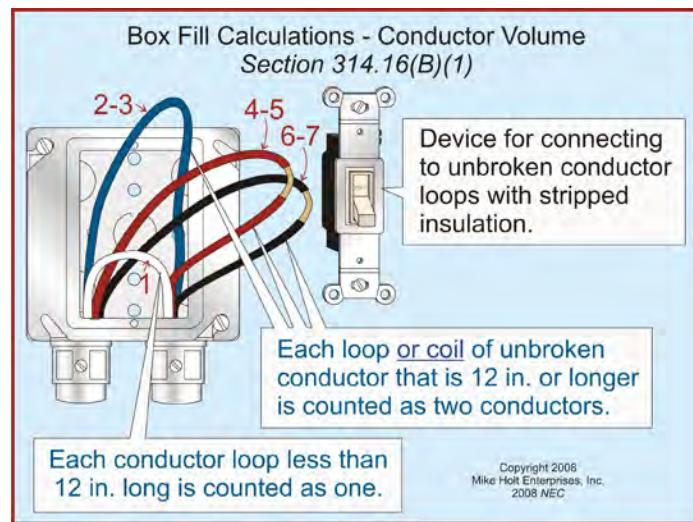

Figure 314–4
(1) Conductor Volume. Each unbroken conductor that runs through a box, and each conductor that terminates in a box, is counted as a single conductor volume in accordance with Table 314.16(B). **Figure 314–3**